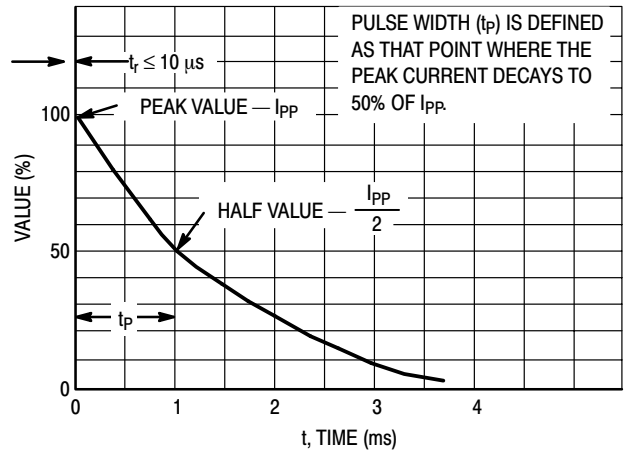
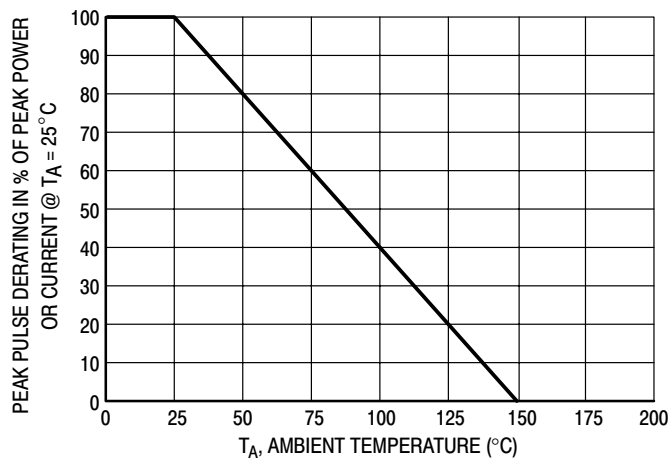

Figure 5. Pulse Waveform
Figure 6. Pulse Derating Curve
5. Surge current waveform per Figure 5. and derate per Figure 6.
- Peak Power – Minimum 24 W @ 1 ms (Unidirectional), per Figure 5
- Peak Power – Minimum 150 W @ 20  $\mu$ s (Unidirectional), per Figure 6